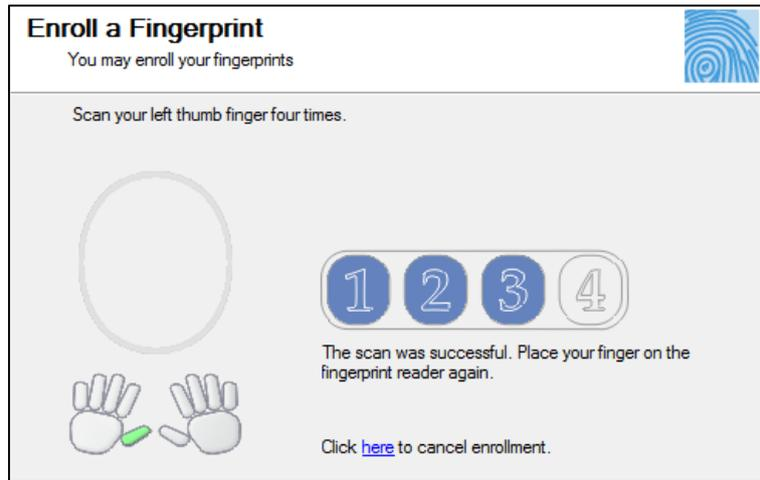

Figure 4
5. After successful enrollment, screen will appear as shown in **Figure 4**.